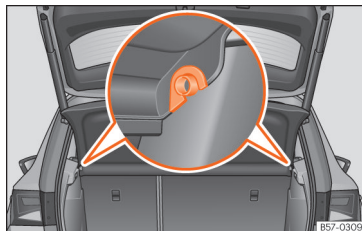

Fig. 170 In the boot: removing and installing the shelf.
- Remove the rear shelf from the side supports >>> **Fig. 170** by pulling it upwards and then take it out.
- Insert the cover horizontally so that the "recess" fits onto the axis of the supports >>> **Fig. 170** and press down until it engages.